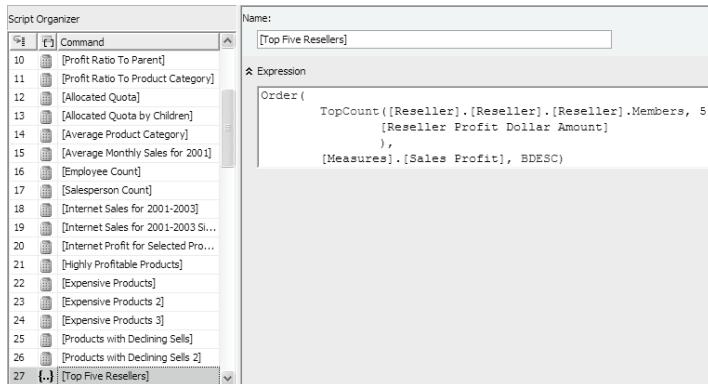

Figure 10.12 Creating a named set in a Form View mode.
3. Click on the New Named Set {} toolbar button. The Form View interface changes (see Figure 10.12). Specifically, the Additional Properties section gets hidden since a named set cannot have format settings.